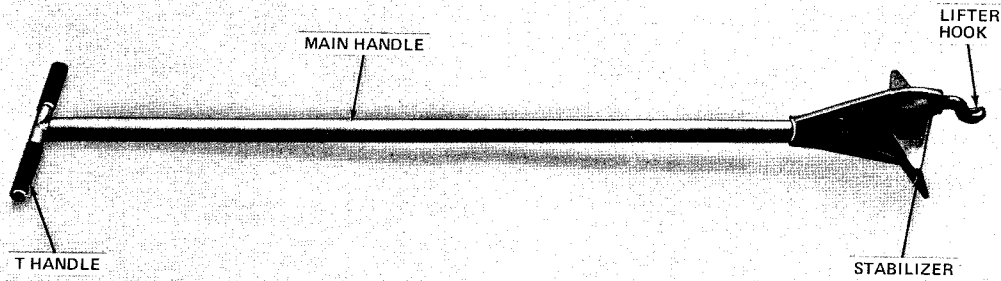

Fig. 6—B Manhole Cover Lifter
4.02 **B Manhole Cover Lifter AT-8967:** The B manhole cover lifter (Fig. 6) can only be used on manhole covers with lifter pockets.